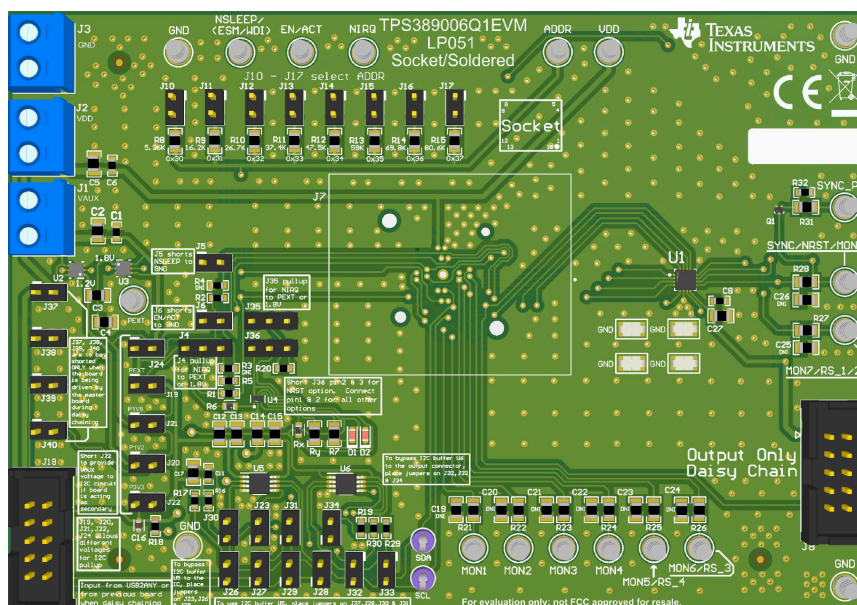

Figure 3-1. TPS389006Q1EVM Jumper Locations
Table 3-2 lists the jumpers on the TPS389006Q1EVM. As ordered, the EVM will have thirty-five (35) jumpers installed. Figure 3-1 is provided as visual aid.